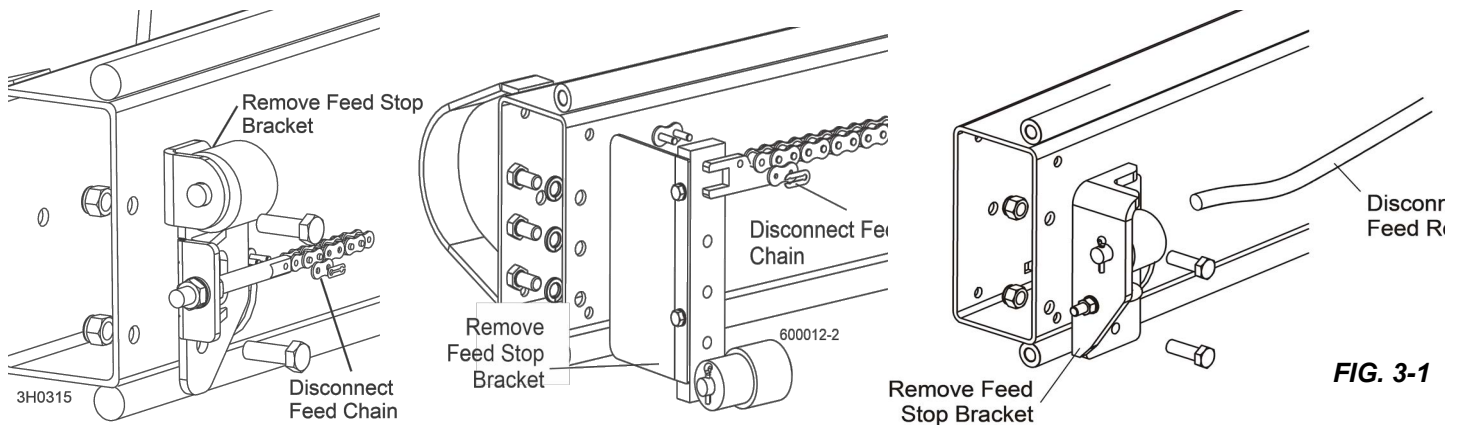

FIG. 3-1
2. Break apart the master link to disconnect the chain from the bolt. **See Fig. 3-1.**